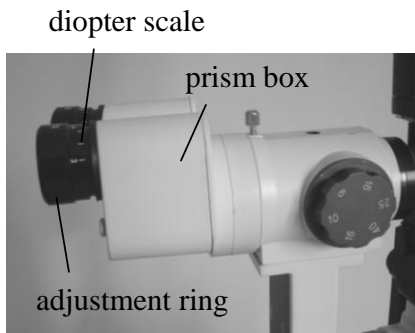

Fig.15
First, rotate the diopter adjustment ring (17) counter clockwise down to the end. (Fig.15)